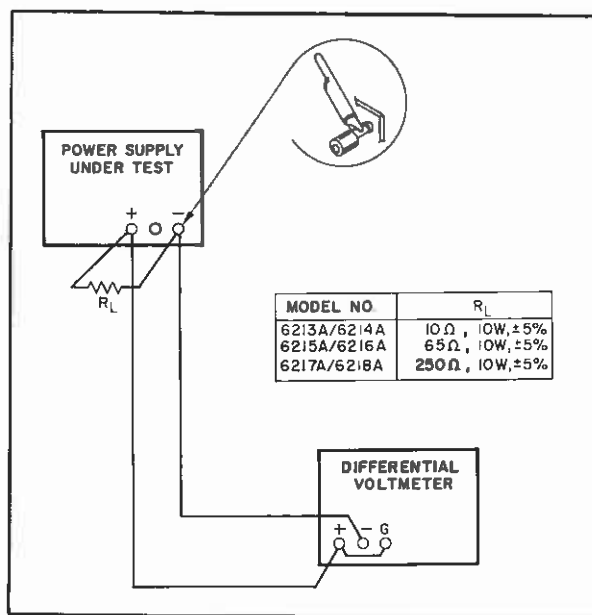

Figure 5-3. CV Load Regulation, Test Setup
- Connect load resistor (R_L), indicated in Figure 5-3, across the output terminals of supply.
- Connect test setup as shown in Figure 5-3.
- Connect test setup shown in Figure 5-3.
- Connect the load resistance, attenuator, and differential voltmeter as illustrated in Figure 5-3.